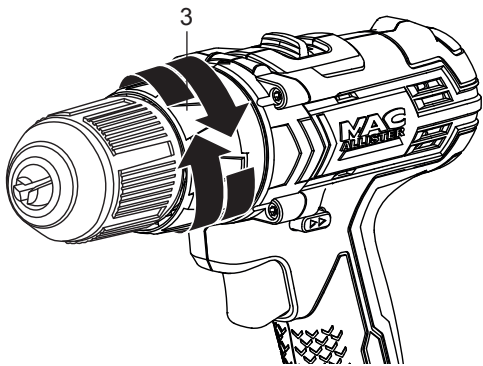

Fig. 14
**Torque adjustment (Fig. 14)**